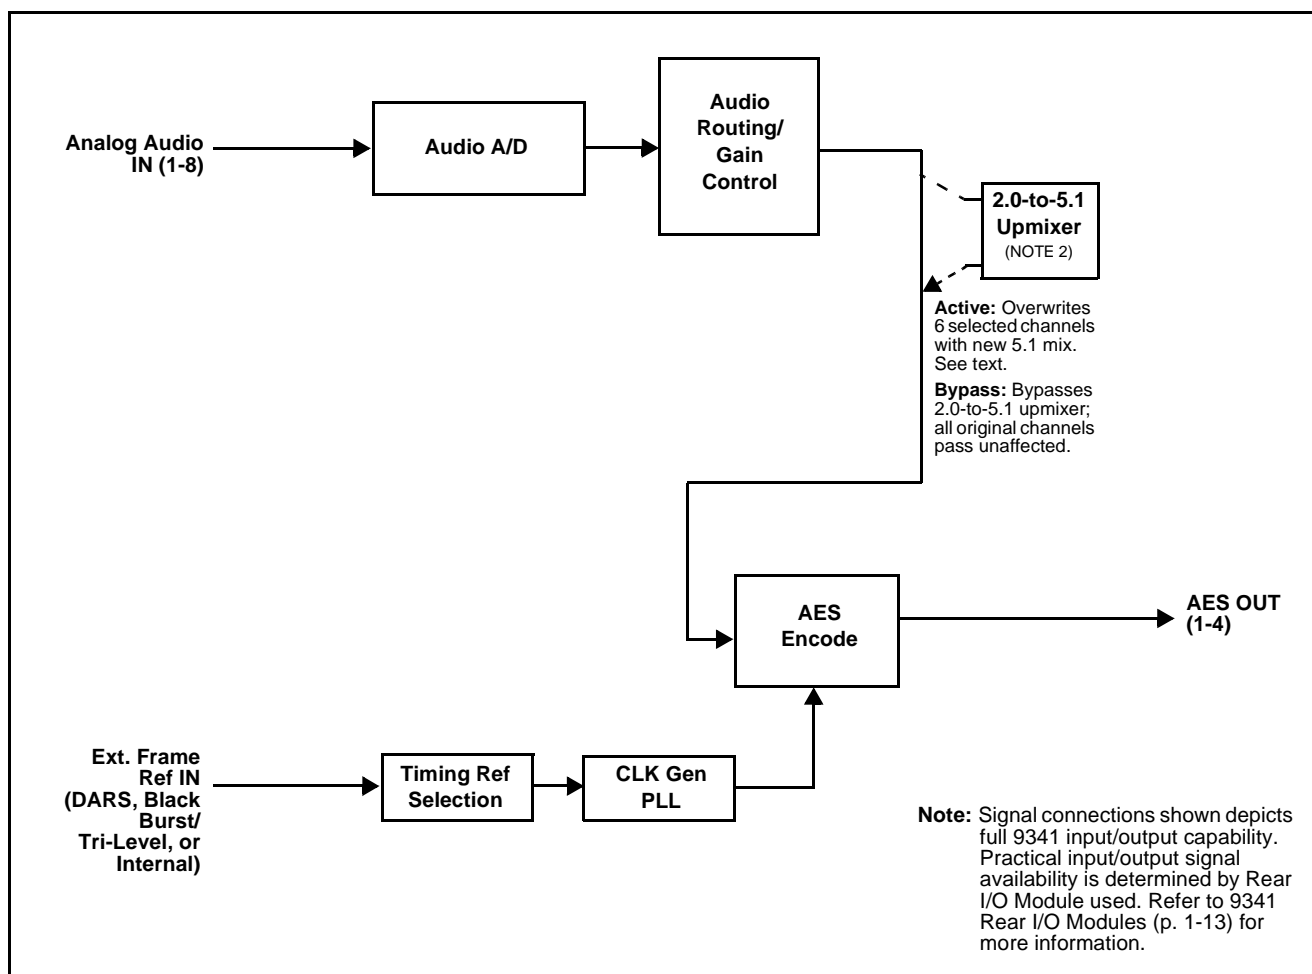

Figure 1-1 9341 Functional Block Diagram
Figure 1-1 shows a functional block diagram of the 9341. The 9341 receives up to eight balanced audio inputs and converts these into up to four AES-3id output pairs. The output timing can be locked to a DARS input timing, black burst or tri-level video reference signal, or the card's internal clock.
- **Reference 1 and Reference 2 Frame References** – Timing is derived from an external frame sync reference signals distributed with the card frame (**Ext. Frame Ref IN** in Figure 1-1), thereby allowing the audio to be synchronized to a black burst or tri-level video reference.
All inputs and outputs shown in the 9341 Functional Block Diagram (Figure 1-1) enter and exit the card via the card edge backplane connector. The Rear I/O Module breaks out the 9341 card edge connections to BNC connectors that interface with other components and systems in the signal chain.